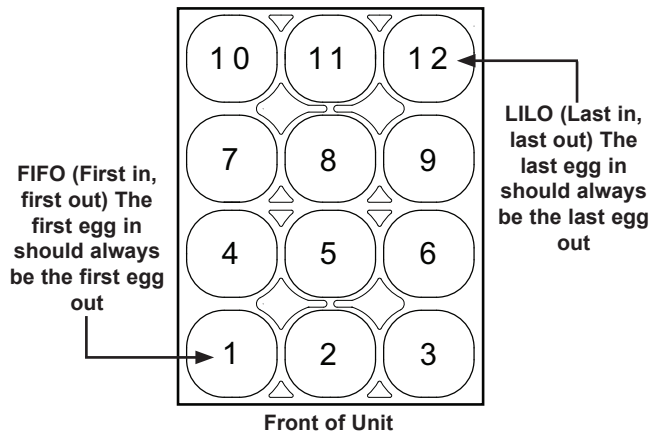

Figure 1. Egg Cooking Procedure
5. Crack the eggs into the Egg Rings from right to left as shown in Figure 1 below, starting at the row closest to the front of the unit.
15. Raise the Egg Rack completely off the eggs and remove the eggs starting with the **FIRST** egg added (far right of the first row of rings closest to the front of the unit) (Figure 1). Continue removing the eggs in the order they were added until all eggs have been removed.